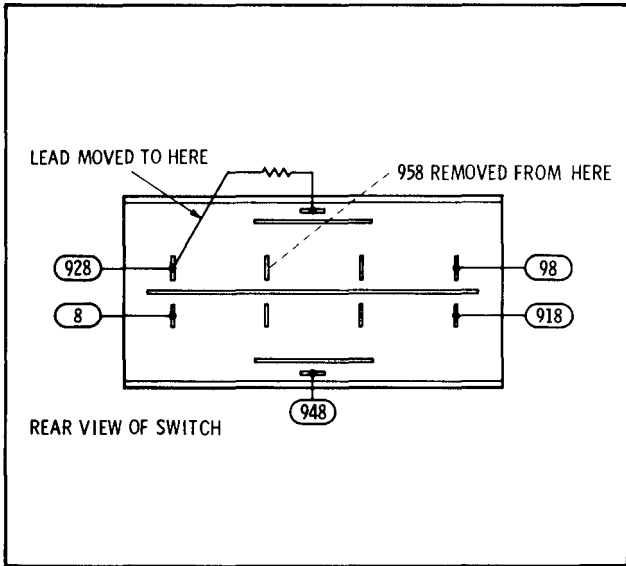

Figure 7-9. Modified Line Switch Wiring
- e. Remove white-green-gray (958) wire from switch and clip off near cable sleeve. This wire will no longer be used.
- f. Unsolder resistor lead from terminal where the white-green-gray (958) wire was previously attached and solder it to the terminal where the white-red-gray (928) wire is attached. Switch wiring should now appear as in Figure 7-9.
- h. Remove white-green-gray (958) wire from terminal C of line power assembly and clip off near cable sleeve.
- i. Unsolder white-yellow-gray (948) wire from terminal E and solder it to terminal D (where black-green (05) wire is also attached).